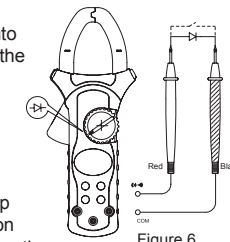

Figure 6
**E. Testing for Diodes and Continuity (See Figure 6)**